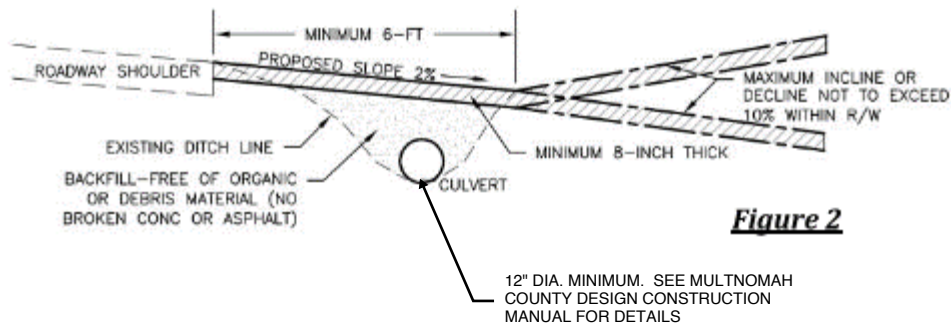

Figure 2
1. Driveway approaches shall be a 2% minimum slope down / away from the road shoulder so that the water runs away from the road and towards the ditch line as shown in **Figure 2**.